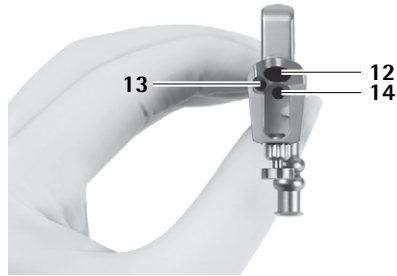

Fig. 1
- insert obturator for the oval working channel 7 into the working channel 12, see Fig. 1.
There is constant irrigation via the irrigation channel. The irrigation fluid drains out via the large working channel 12 and the small working channel 13, see Fig. 1.